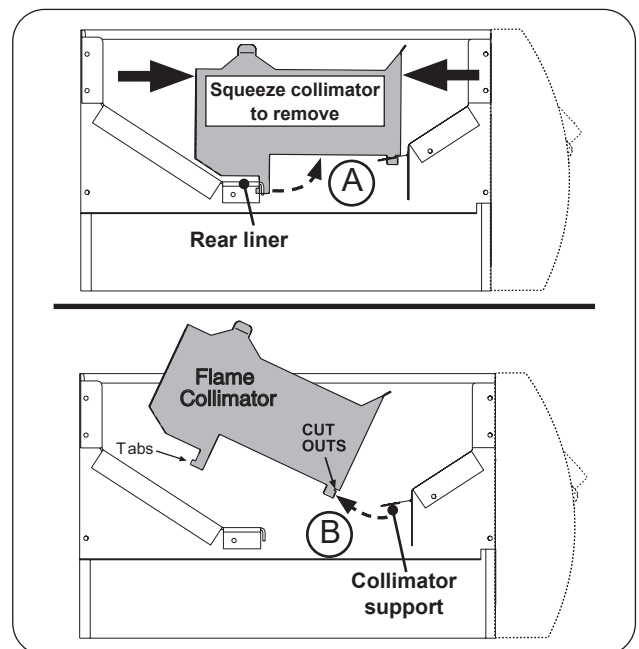

Fig. 47-2 Flame collimator removal
2. Squeeze the collimator to detach the rear tab from the rear liner as shown in Fig. 47-2, A, and lift up the rear portion of the collimator.
3. Detach the collimator from the front collimator support and completely remove the collimator as shown in Fig. 47-2, B.